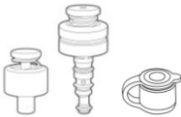

Figure 3
- If using the 3-piece, 4-piece or 5-piece valve kit (Figure 3, Figure 4 or Figure 5), attach the biopsy valve.